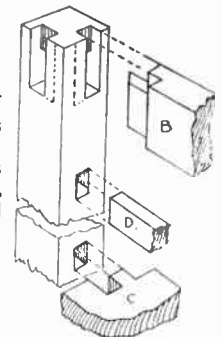
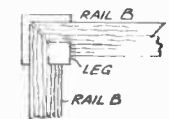

Fig. 4—Framing joints
Fig. 5—Corner joints
The first part to make is the frame for taking the structure. Make this from $\frac{1}{8}$ in. by $\frac{1}{2}$ in. wood and $3\frac{1}{2}$ ins. long, and round the ends off as shown in Fig. 2. Two cross bearers are needed $1\frac{1}{2}$ ins. in length from $\frac{1}{2}$ in. by $\frac{1}{2}$ in. material. Along the centre is another bar at least $\frac{1}{2}$ in. wide to take the sump heads as shown in Fig. 5, and also to allow the wheels to pivot on the front axle.
In making the table you will be greatly helped by the details given at Figs. 2 to 7. These clearly show the method of construction, and also give the principal dimensions. Figs. 2 and 3 show two side views of the table; Fig. 4 shows the method of framing the parts together; Fig. 5 explains the
In making the table the first operation will be to plane up the legs and the cross rails, and to frame them together. The side rails are mortised and tenoned into the legs, as shown in Figs. 4 and 5, and the mortises and tenons should be set out with the marking gauge and try square or a set square.
The mortises are cut from each side of the legs until they meet in the middle, and the ends of the tenons must be mitred to meet in the mortises, as shown in the plan at Fig. 5.
The shelf (C) should next be framed into the legs; it is notched over the legs, and is stub-tenoned into them, as shown at Fig. 4. The tenons which are formed at the ends of the shelf are ¾in. long by ¾in. wide, and care must be taken to cut these tenons so they will be in a line with the small rails which are framed between the shelf, the side rails and the legs, as given in the detail in Fig. 4. The small rails at the sides are then framed together, and let into the shelf, top rails and the legs.